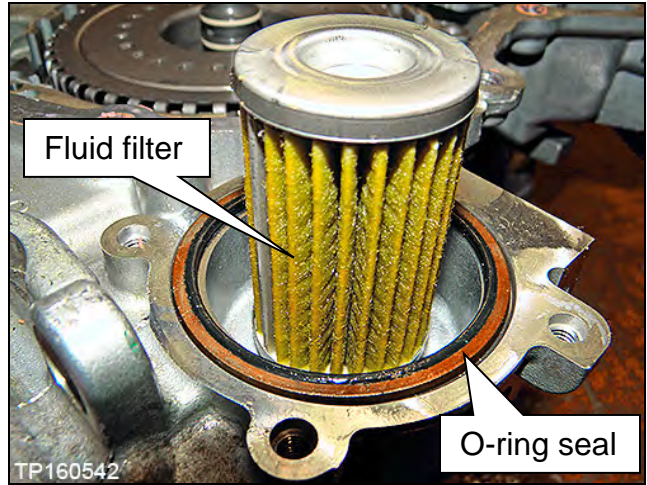

Figure 27B
- b. Remove the CVT fluid filter with grommet seal and O-ring seal (Figure 27B).